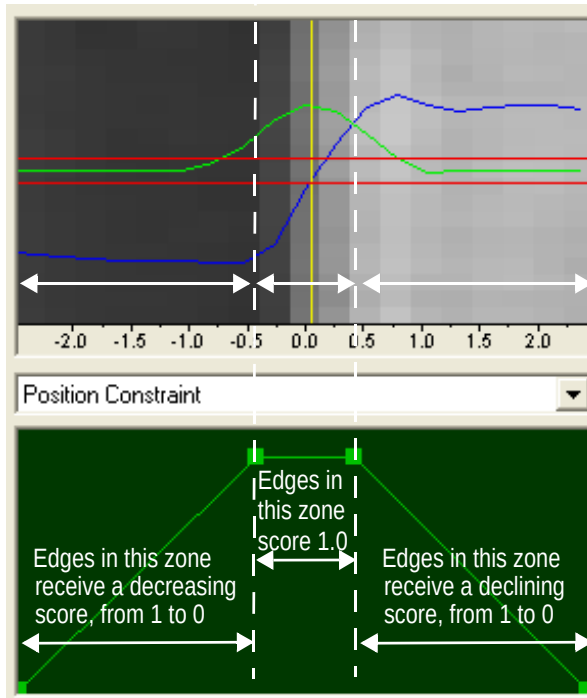

Figure 44 Position Constraint Histogram
2. Use the mouse to drag the handles in the histogram editor of the selected constraint. Set the Edge Position Constraint histogram as illustrated in Figure 44.